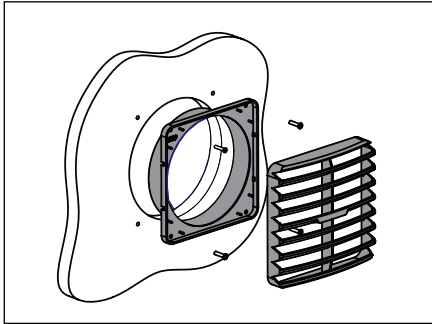

Fig. 27
3. Fix Grille base with four 6 G screws and snap fit the Grille louvres over the Grille base as shown in Fig. 27.